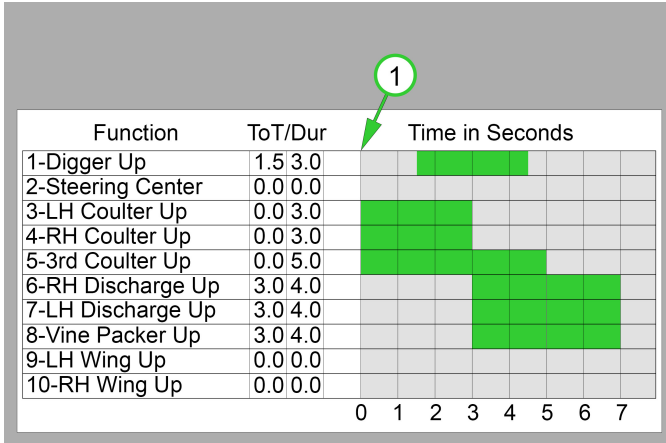

Figure 24
- Each *Turn on Time (sec)* value is calculated from the time the *START* key is activated. This allows functions to activate in any sequence, regardless of the list order. To edit the *Turn on Time (sec)* value, press soft key 5 (*UP*) to incrementally increase the start time. Press soft key 6 (*DOWN*) to incrementally decrease the start time.
- The *Duration (sec)* values are unique for each function. This enables each function to operate for its individually specified time. Some AUTO functions require a duration greater than 0.1 seconds to engage. To ensure engagement of AUTO functions, use a duration of 0.5 seconds or greater. To edit the *Duration (sec)* value, press soft key 7 (*UP*) to incrementally increase the duration time. Press soft key 8 (*DOWN*) to incrementally decrease the duration time.
- Repeat from step 1 for the end of row setup. For the ten end of row functions in the SEOR sequence, see Figure 24. In the figure, (1) indicates when the *END* key is activated.